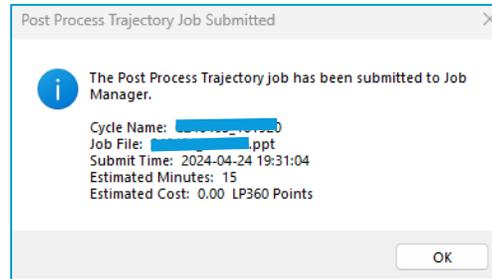

Figure 58 - Post Process Trajectory Job Submitted
- 10. A successfully submitted job notification will appear confirming the job submission (Figure 58).